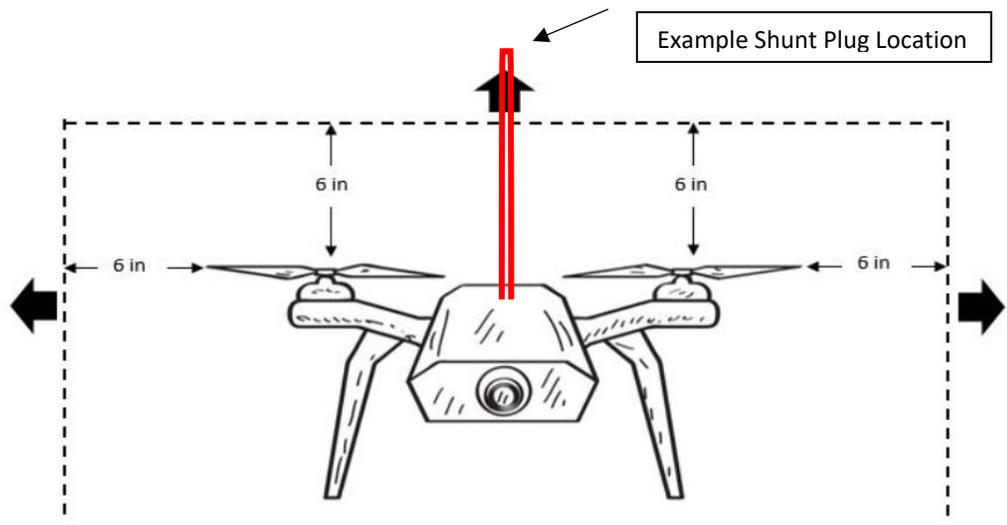

Figure 6. Allowable Location for Propulsion System Shunt Plug
9. Shunt Plug: The purpose of the shunt plug is to provide an easy and quick way to manually disarm the aircraft. A shunt plug must be wired between the leads of the battery system and the ESC for manual disarming and arming of the aircraft's power system. The shunt plug must be red. The shunt plug must be removable with only one hand and without any tool. The tip of the shunt plug, where someone would grab it, must be located outside the dotted line as shown in Figure 6, below. The dotted line, if extended both into and out of the page, creates a box around the aircraft that extends outward from the rotors by 6 inches in all directions. Hint: Placing the shunt plug aft of the vehicle may be the best solution for aerodynamic and stability purposes in forward flight.